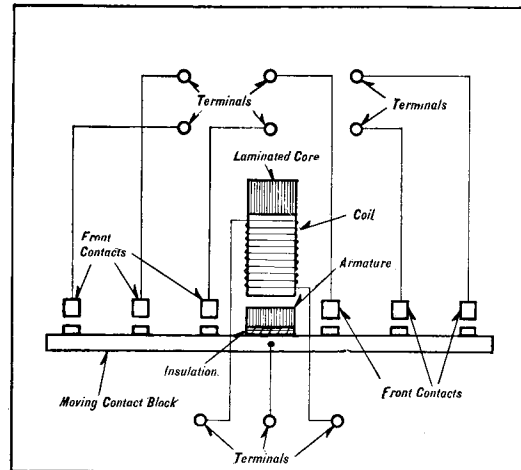

Fig. 18—Internal Wiring Diagram of Type MC Relay or M Relay. Six Parallel Circuits Made When Relay is Energized. (Rear View)
- M-6—Six parallel make contacts (Figures 18 and 21)